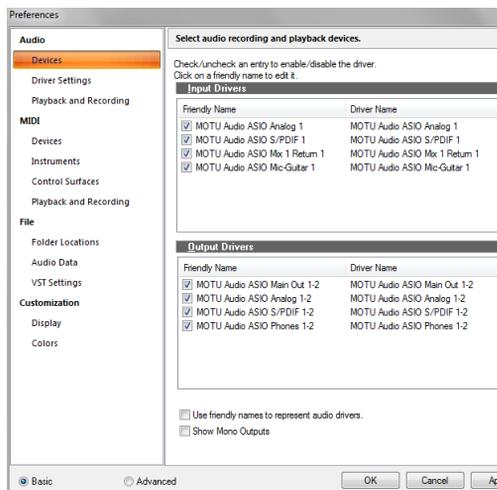

Figure 7-8: Enabling inputs and outputs in SONAR.
- 5 Check the 4pre inputs and outputs that you wish to use and uncheck the ones you don't, as shown in Figure 7-8 on page 42.